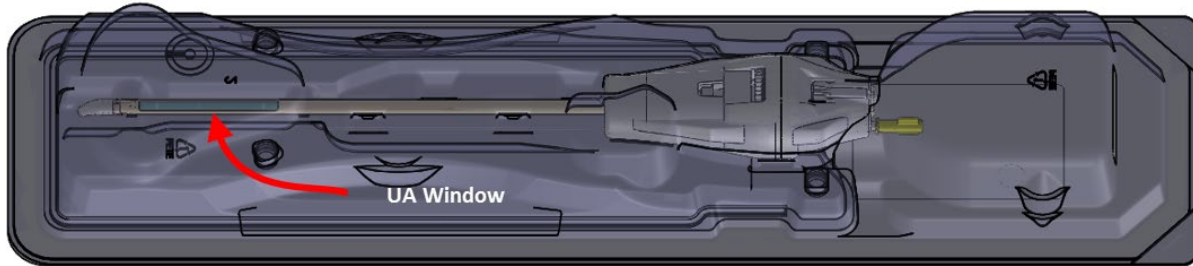

Figure 11. Examine the UA window for the presence of air bubbles.
- d. Look through the package and carefully inspect the UA window for bubbles (Figure 11). There should be **no** bubbles of **any** size. If you see bubbles, gently tap the package-end close to the UA window against the work surface to dislodge them. If you still see bubbles, repeat the procedure, starting from step “a”.